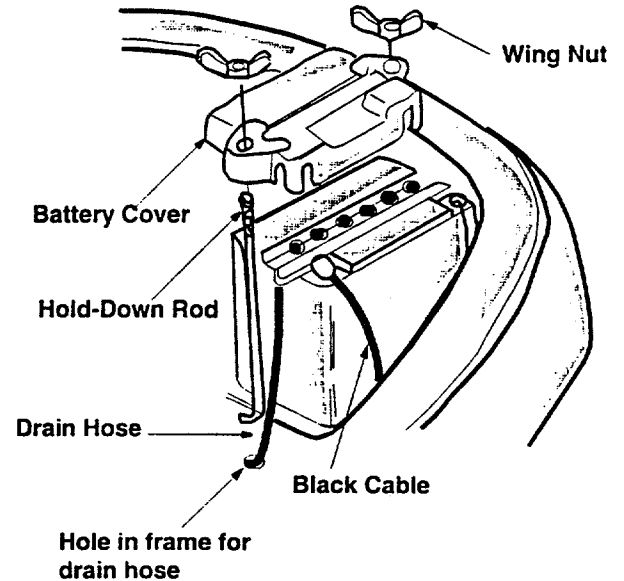

**Figure 3**
- Pivot the seat frame of the mower upwards as shown in Figure 3.